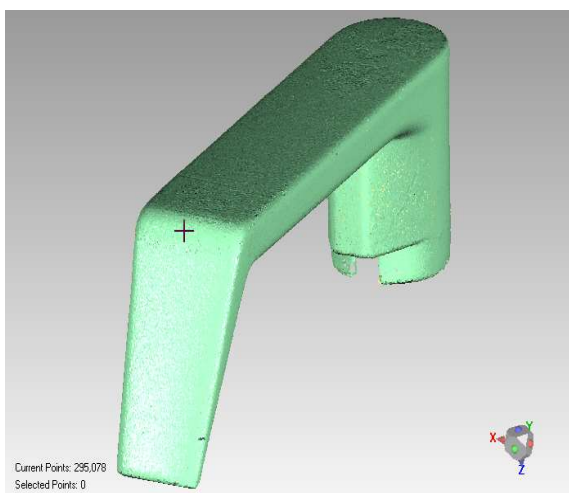

Figure 48
- The cursor will change to a cross-hair shape. **Click** near the location shown in **Figure 48**.